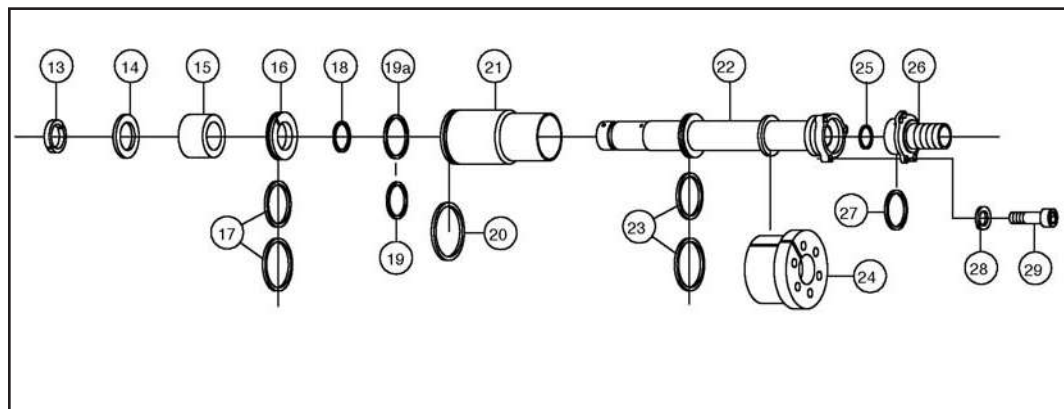

FIG. 56: CONTROL STUD COMPONENTS
3. Clamp the control stud into soft jaws of the vice with the whip hose pointing upwards, ready to be removed (see Fig. 56 and refer to appendix 2 for descriptions of parts).
16. Take stop ring (number 16), and sealing ring (number 17) with the control tube off the control tube (see Fig. 56).